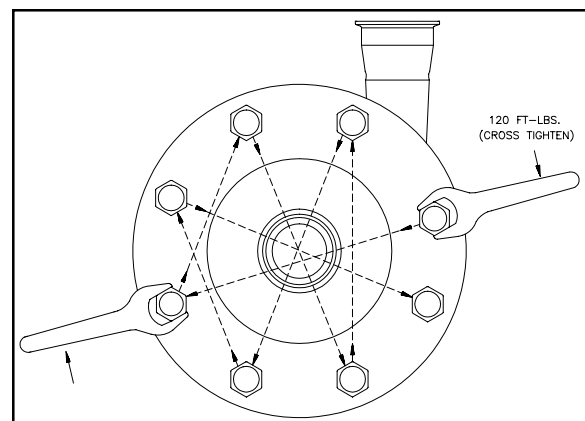

Figure 7: Tightening Of Cover nuts
Place the new cover gasket (6) into the groove on the pump cover and install them onto the pump housing. Thread the cover nuts (2) and flat washers (3) onto the housing studs. Cross the cover nuts to approximately 100-120 ft lbs (Figure 7).